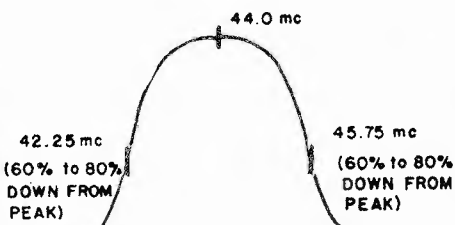

FIG. 9
20. Increase bias voltage to -4.5 volts and adjust the oscilloscope so that 2 inches of vertical deflection is equivalent to approximately 2 volts P-P output. Adjust output of signal generator until a 2 volt P-P indication is obtained on the 'scope. Response curve and marker positions should conform to Fig. 9.
- CAUTION - No attempt should be made to improve a response curve which conforms to that shown in Fig. 9. Minor deviations may be corrected by slight touch-up of specific coils to make response conform to Fig. 9, as indicated below: